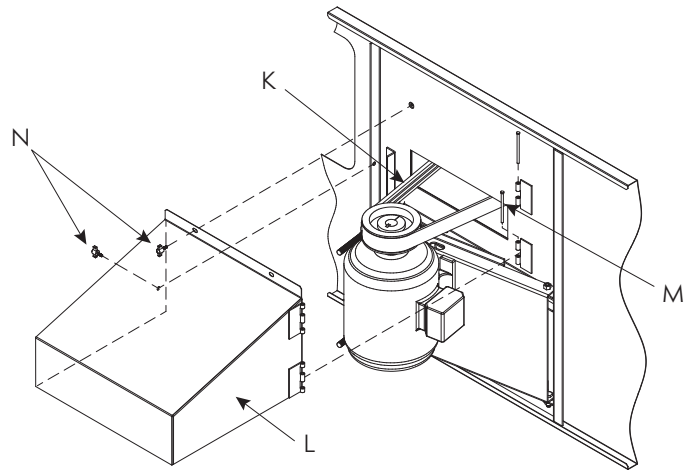

Figure 18b – Motor Guard and Power-Band Belt Installation
7. Install Power-Band belt **K** (Figure 18b) around fan sheave and motor sheave. Tighten belt by adjusting nuts on J-bolts. Do not overtighten the belts. The center of the belt should deflect approximately 3/4" (19 mm) in the horizontal plane with moderate hand pressure.
10. To install motor guard **L**, match up hinges and install hinge pins **M** as shown in Figure 18b.